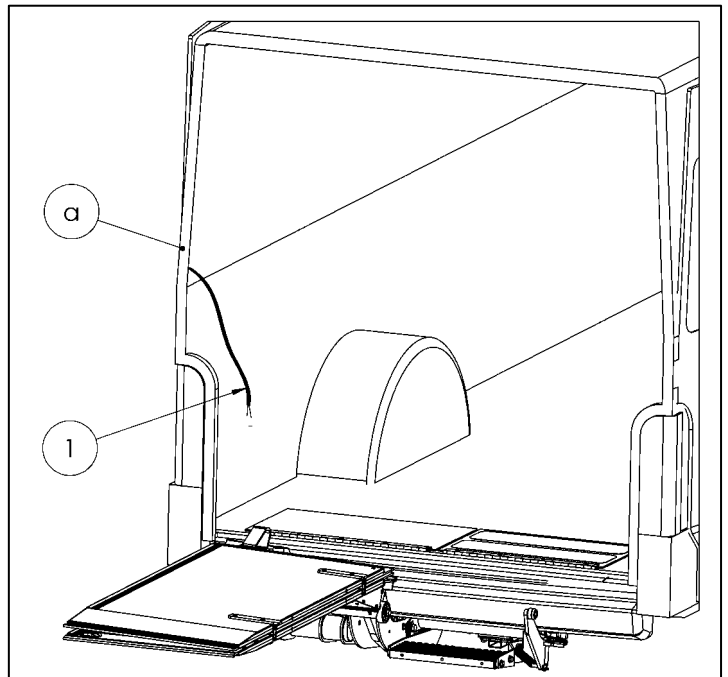

Fig. 63
- Find the cable connection point for the license plate light in the C column (a) on the Ford Transit (see Fig. 63).